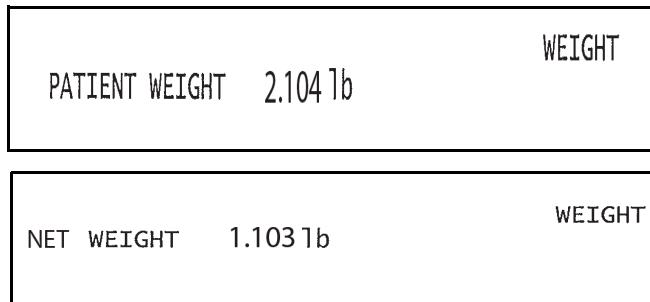

Figure 5-4. Print Ticket Examples
**Note** A single print ticket has four spaces after the patient weight and only one space between the weight and lb in the examples shown in Figure 5-4. Then seven <CR><LF> after.